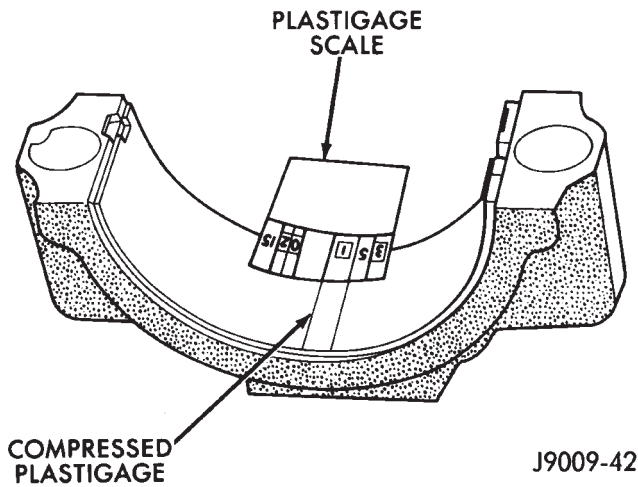

Fig. 7 Measuring Bearing Clearance with Plastigage
- (5) Install the lower bearing insert in the bearing cap. The lower insert must be dry. Place strip of Plastigage across full width of the lower insert at the center of bearing cap. Plastigage must not crumble in use. If brittle, obtain fresh stock.
- (6) Install bearing cap and connecting rod on the journal and tighten nuts to 45 N·m (33 ft. lbs.) torque. DO NOT rotate crankshaft. Plastigage will smear, resulting in inaccurate indication.
- (7) Remove the bearing cap and determine amount of bearing-to-journal clearance by measuring the width of compressed Plastigage (Fig. 7). Refer to Engine Specifications for the proper clearance. **Plastigage should indicate the same clearance across the entire width of the insert. If the clearance varies, it may be caused by either a tapered**